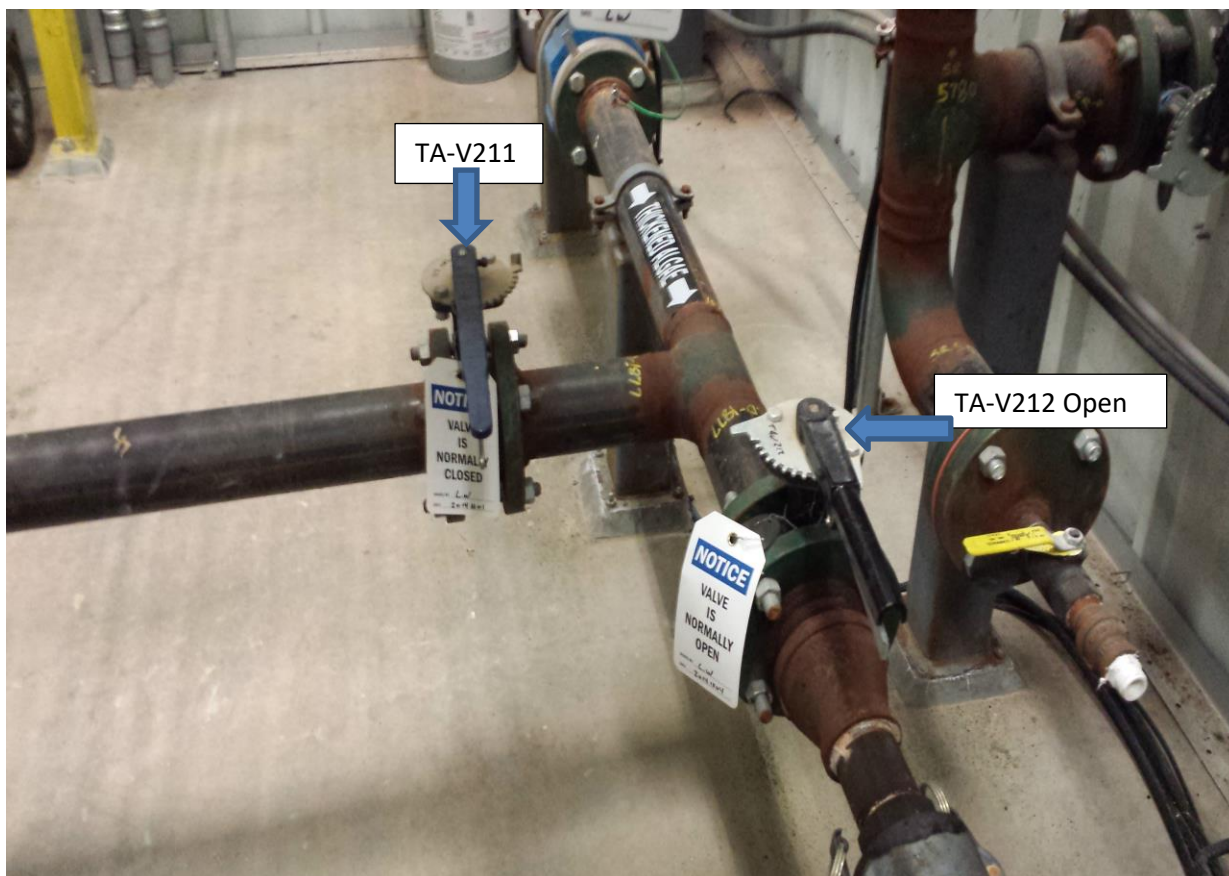

Figure 1.
- 2.3. Close TA-V211 (valve should be perpendicular to pipe when closed). **See figure 1.**
- 2.4. Open TA-V212 (valve should be parallel to pipe when open). See figure 1.
- 5.2. Once flushing of lines is complete and all the hoses drain, close TA-V212 (valve should be perpendicular to line when it is closed). See figure 1.
- 5.3. Open TA-V211 If decanter will be used again. (Valve should be parallel with pipe when open). See figure 1.